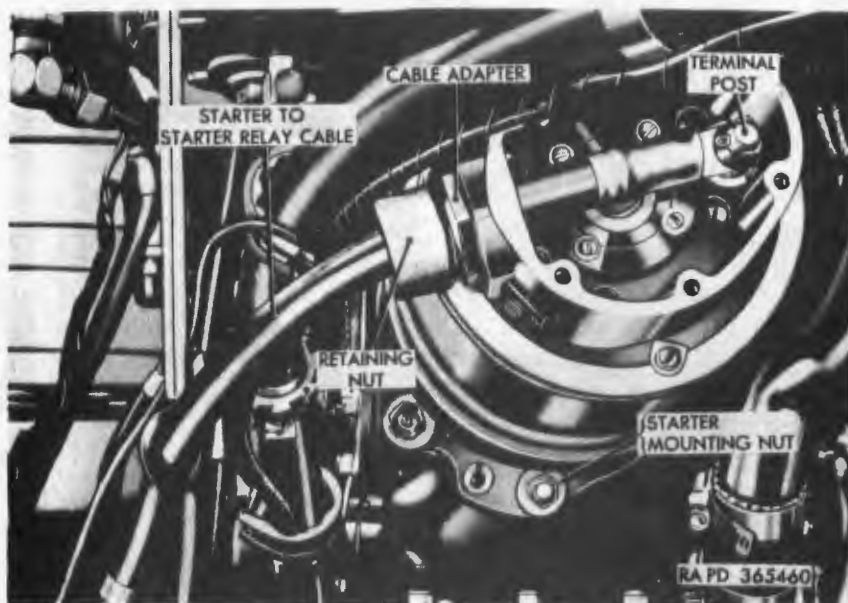
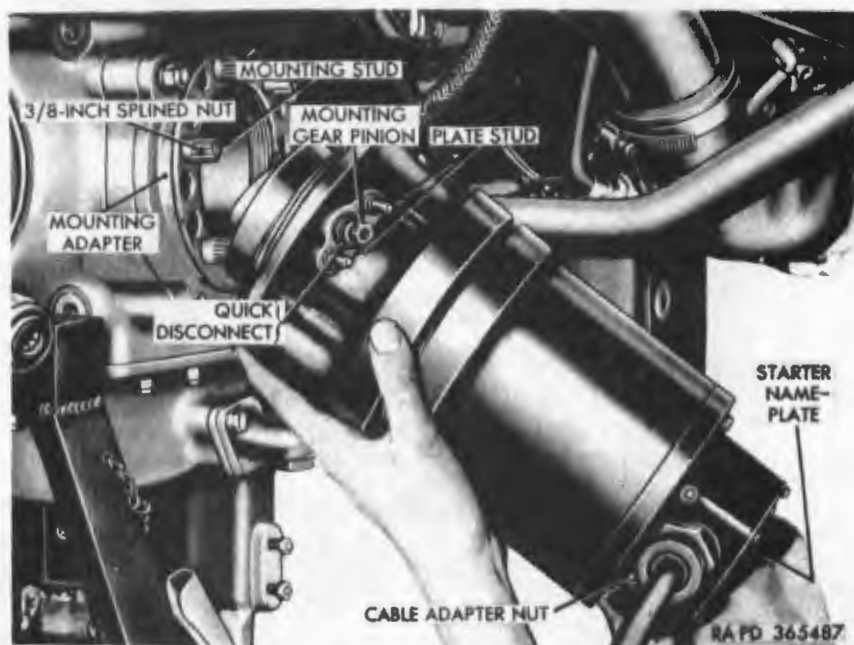

Figure 139. Jack and Heintz starter with cover removed—mounted on engine.
Figure 140. Removing Jack and Heintz quick-disconnect starter.
b. Starter. A 24-volt, waterproof starter (fig. 139) is mounted on the lower right side of the accessory end of the engine. The engine may be equipped with an Eclipse-Pioneer starter or a Jack and Heintz starter. These starters are essentially the same, differing only in the method of mounting. Each starter consists of a motor section and a gear section. The motor section comprises a commutator, field coil, and an armature and pinion assembly. The starter motor is a series-parallel wound, 4-pole unit, with 4 brushes. Included in the gear section are the reduction gears, clutch, screw shaft, and starter jaw. The gear section is bolted to the drive end of the motor. The terminal stud extends into the commutator end head and is accessible through a watertight access hole cover located on the rear of the starter. An oil seal in the gear section prevents engine oil from entering the starter.
b. Removal of Stud-Mounted Starter (fig. 139).
- (1) Remove power plant (par. 126).
- (2) Remove six fillister-head screws and lockwashers securing motor end cover and gasket to starter and remove cover and gasket.
- (3) Loosen retaining nut and remove cable adapter from starter housing.
- (4) Remove starter to starter relay cable from terminal post by removing cotter pin, castellated nut, lockwasher and two flat washers.
- (5) Remove six jamnuts, hex nuts, and flat washers securing starter to engine and remove starter and gasket being careful not to damage starter pinion shaft. Discard the gasket.
c. Installation of Stud-Mounted Starter (fig. 139).
- (1) Position new gasket on starter mounting studs and insert starter into engine being careful not to damage starter pinion shaft.
- (2) Secure starter to engine with six $2\frac{5}{16}$ -inch flat washers, $\frac{3}{8}$ -inch hex nuts, and $\frac{3}{8}$ -inch jamnuts.
- (3) Insert cable through starter housing hole and position on terminal post. Secure cable terminal with $\frac{3}{8}$ -inch flat washer on each side of cable terminal, $\frac{3}{8}$ -inch lock washer, $\frac{3}{8}$ -inch castellated nut, and $\frac{1}{16}$ x $\frac{5}{8}$ cotter pin.
- (4) Install cable adapter in housing and tighten retaining nut.
- (5) Install motor end cover and gasket on starter and secure with six No. 10 x $1\frac{1}{16}$ fillister-head screws and No. 10 lockwashers.
- (6) Install power plant (par. 130).
d. Removal of Jack and Heintz Quick-Disconnect Starter (fig. 140). Perform operations detailed in *b* (1) through (4) above. Remove two safety nuts and flat washers securing locking plate on mounting gear pinion and remove plate. Turn hex nut on mounting gear pinion counterclockwise to unscrew starter from adapter and six mounting studs and remove starter from engine.
e. Installation of Jack and Heintz Quick-Disconnect Starter (fig. 140). Position starter on six mounting studs. Turn hex nut on mounting gear pinion clockwise to screw starter into adapter and tighten to 25 pound-inches; do not exceed 30 pound inches. Install locking plate on mounting gear pinion and secure with two $1\frac{7}{8}$ -inch flat washers and $\frac{1}{4}$ -inch safety nuts. Complete installation of starter using procedure detailed in *c* (3) through (6) above.
(1) Perform operations detailed in *b* (1) through (4) above. Remove two safety nuts and flat washers securing locking plate on mounting gear pinion and remove plate. Turn hex nut on mounting gear pinion counterclockwise to unscrew starter from adapter and six mounting studs and remove starter from engine.
(2) Remove six splined nuts (fig. 140) from starter mounting studs.
(3) Remove mounting plate and gasket and mounting ring and gasket from adapter on engine.
(4) Install Eclipse-Pioneer starter mounting adapter and gasket on starter mounting studs and secure with six $\frac{3}{8}$ -inch flat washers, $\frac{3}{8}$ -inch hex nuts, and $\frac{3}{8}$ -inch jamnuts.
(5) Complete installation using procedure outlined in *g* above.